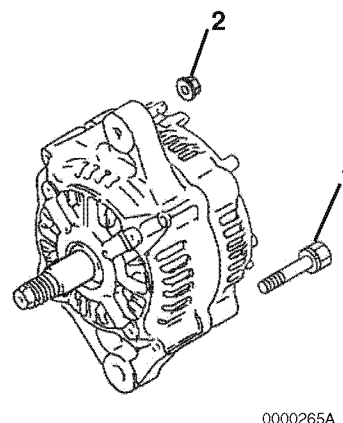

Figure 12-8
7. Remove the two bolts (**Figure 12-8, (1)**) and two nuts (**Figure 12-8, (2)**) securing the rear frame housing to the front frame housing.